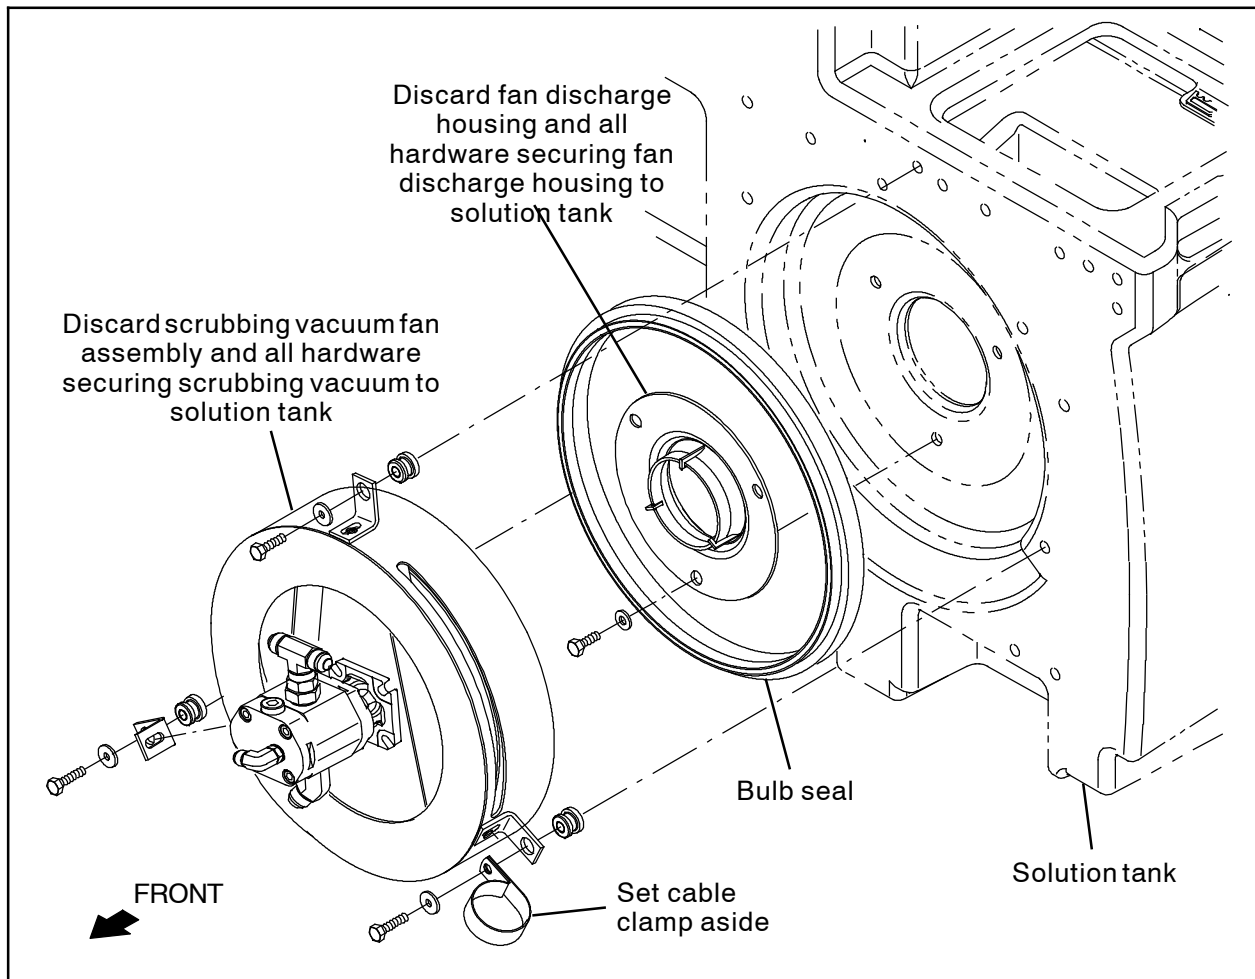

FIG. 9
7. Remove the scrubbing vacuum fan assembly from the solution tank. Set the cable clamp aside. Discard the scrubbing vacuum fan assembly and all hardware. (Fig. 9)
8. Remove the hardware securing the fan discharge housing to the solution tank. Discard the fan discharge housing and all hardware. (Fig. 9)